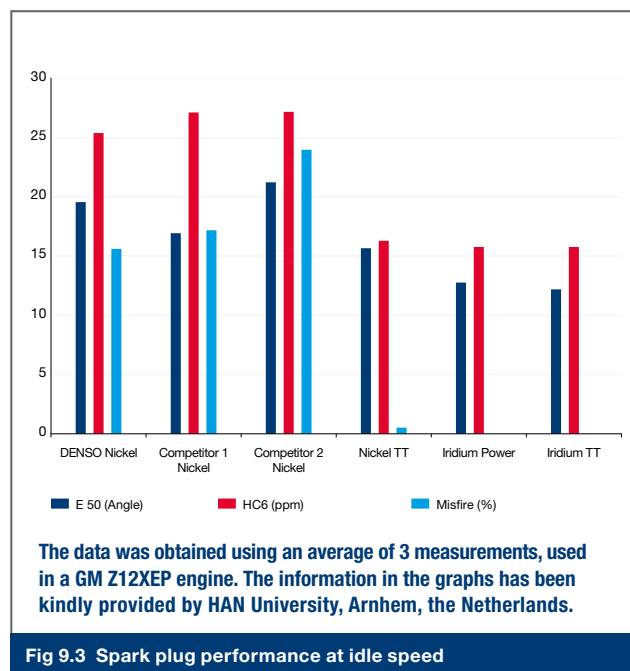

Fig 9.3 Spark plug performance at idle speed
**Improved ignition performance at idle speed** Fig 9.3 shows the results of testing at idle speed with a comparison between nickel spark plugs produced by DENSO and two of its competitors, along with a comparison against DENSO Nickel TT, Iridium Power and Iridium TT Spark Plugs.